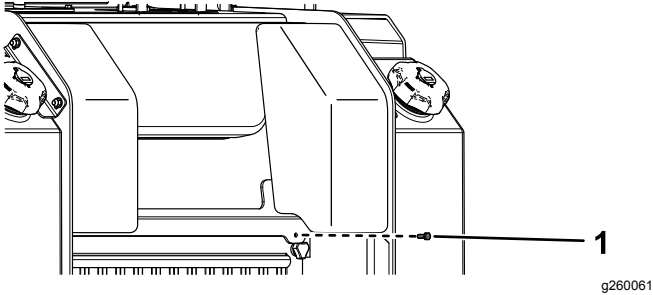

Figure 38
1. Remove the fastener (Figure 38).